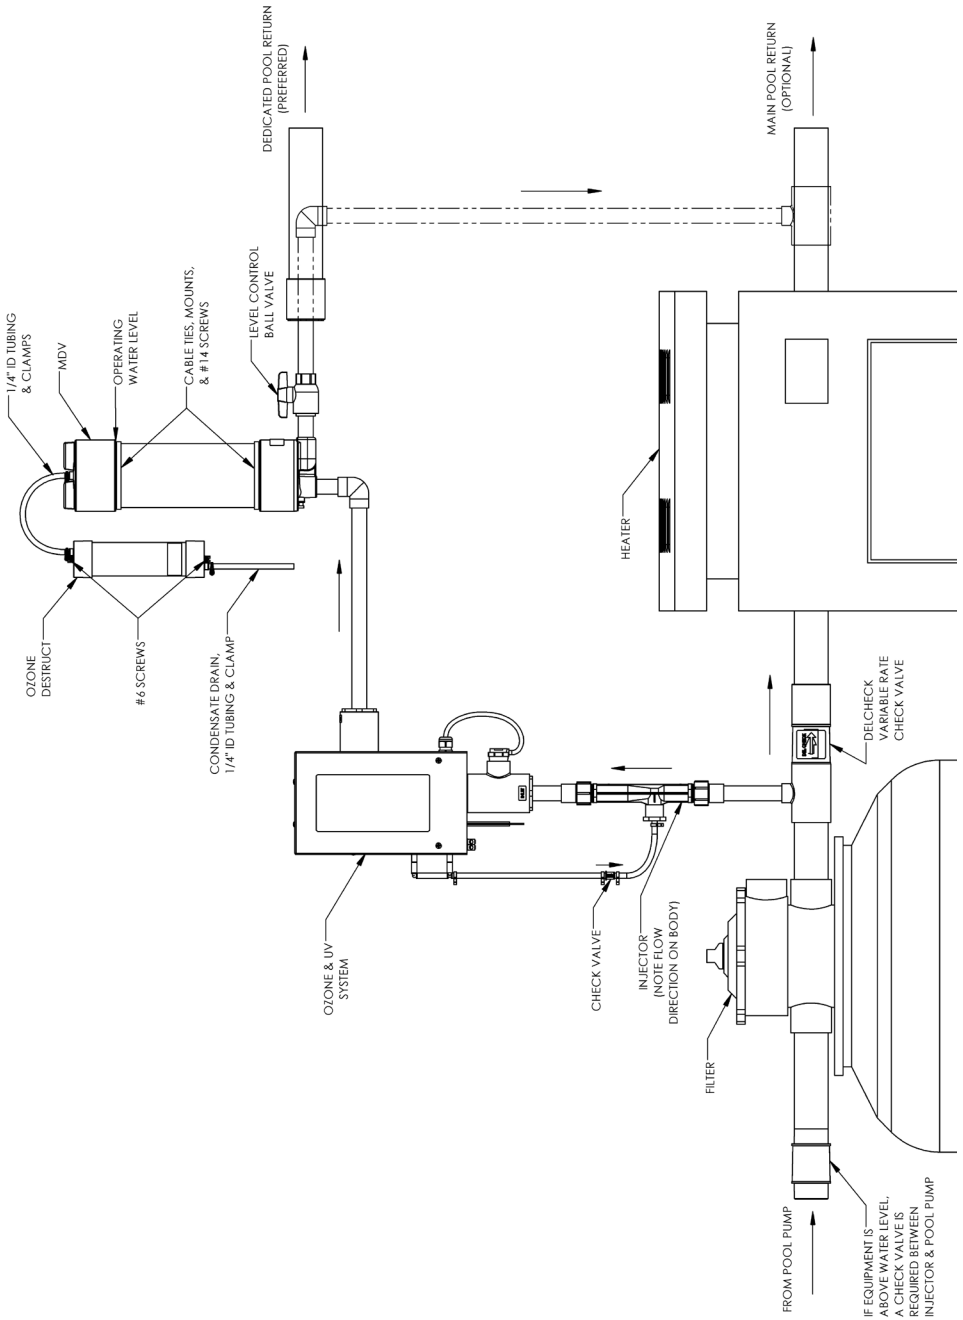

Figure 1: Typical Plumbing with MDV (pool with heater)
SECTION 2 Installation (refer to Figure 1)
NOTE: There are additional parts for the MDV installation (compare **Figure 2** in the SEC-50 manual with **Figure 1** in this manual). The additional installation steps specific to the MDV parts are described below.
2. Mount the MDV vertically as shown in **Figure 1** to a solid surface (i.e. fence, wall, post) using the (2) cable ties, (4) cable tie mounts, and (4) screws included. Use a pair of pliers to tighten and secure the cable tie. If trimming away excess, fold tab over to avoid the sharp edge. To avoid discoloration, mount in an area out of direct sunlight.
3. Mount the Ozone Destruct vertically to a flat surface using (2) #6 screws.
4. Install By-Pass plumbing as shown in **Figure 1**.